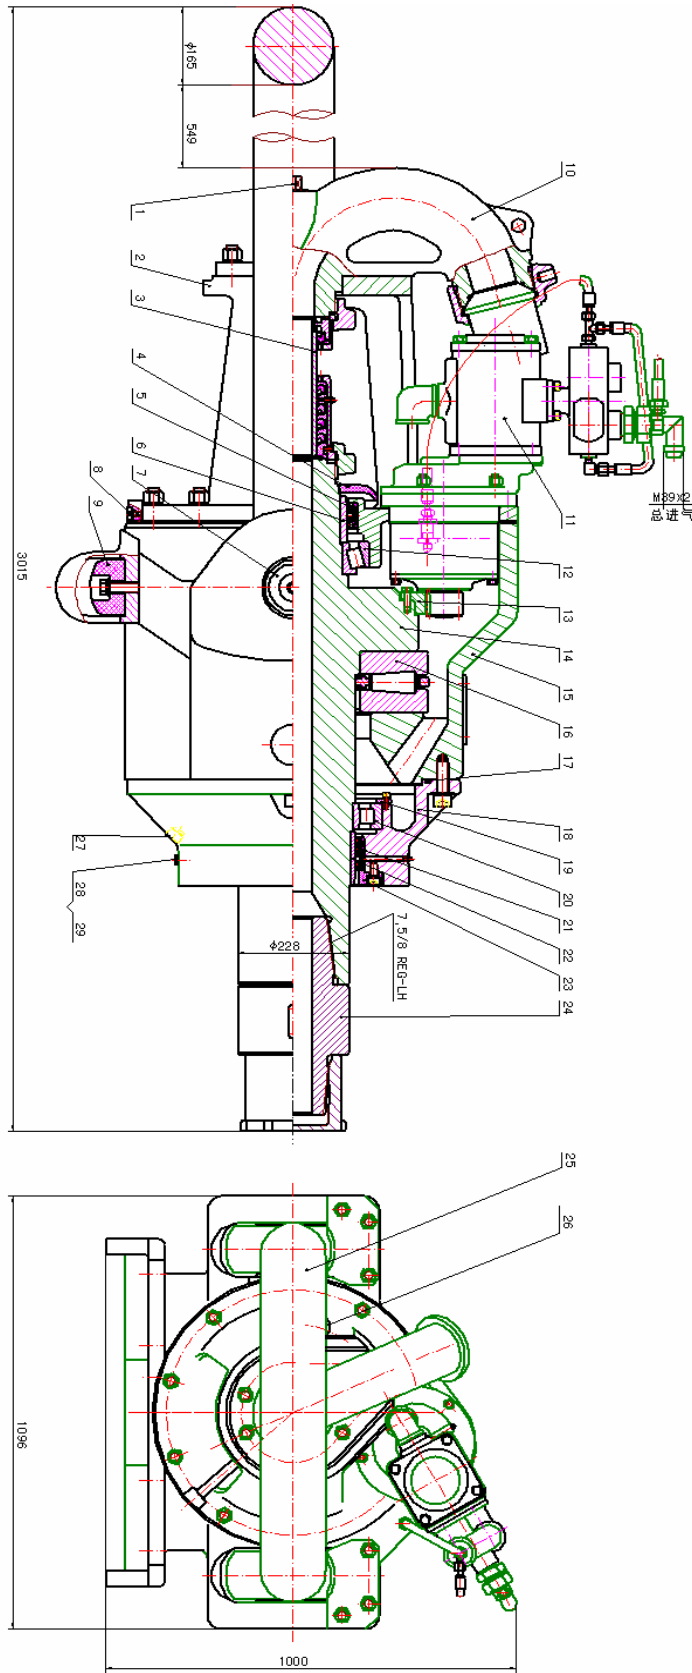

Fig.1 Outline of Swivel
3.5 Contact point of gear ring of central pipe (Fig.1, 13) with gear shaft (Fig.7, 15) along depth of tooth should not be less than 40%, along length of tooth not less than 60%.
Parts list for Figure 1: